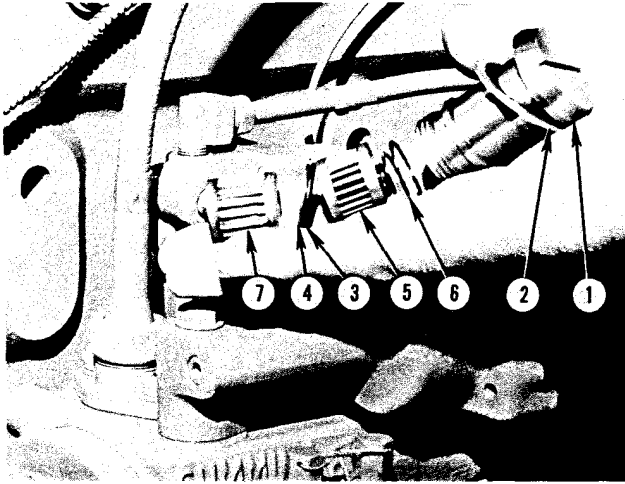

Fig. 2-26, (N11940). Fuel screen in fuel pump with MVS governor
2. Remove "O" ring retainer, "O" ring, screen and spring from filter cap. Fig. 2-26.